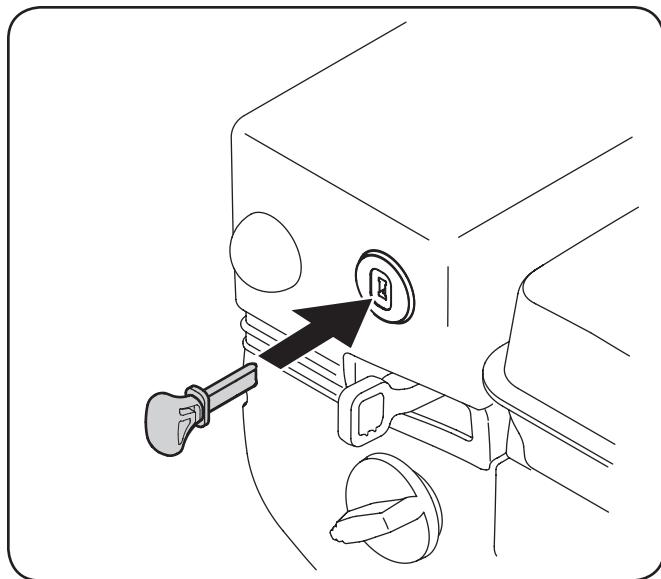

Figure 5-1
2. Insert the ignition key fully into the slot, Fig. 5-1. Make sure it snaps into place. DO NOT turn the ignition key. The engine cannot start unless the key is inserted into the ignition switch.
1. Insert the ignition key fully into the slot, Fig. 5-1. Make sure it snaps into place. DO NOT turn the ignition key. The engine cannot start unless the key is inserted into the ignition switch.